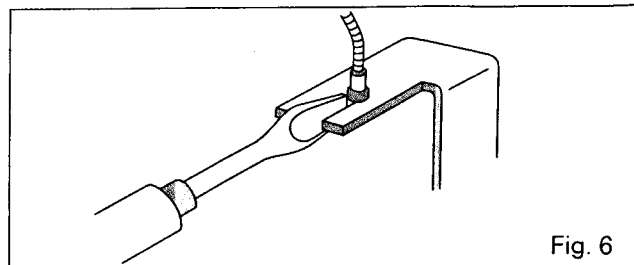

Fig. 6
- (1) Remove the arm support.
- (2) Remove the three red screws.
- (3) Remove the shield case.
- (4) Disconnect from the lug terminal plate the five leads coming from the tone arm.
- (5) Turn the drive gear 180° so that the return plate moves over the nut and remove the arm rest fixing nut. And pull out the arm rest.
- (6) Loosen the screw of the tone arm fixing plate boss and remove the tone arm fixing plate.
- (7) Remove the tone arm fixing nut and remove the tone arm.
- (8) Disconnect the release wire from the lifter base (Fig. 6).